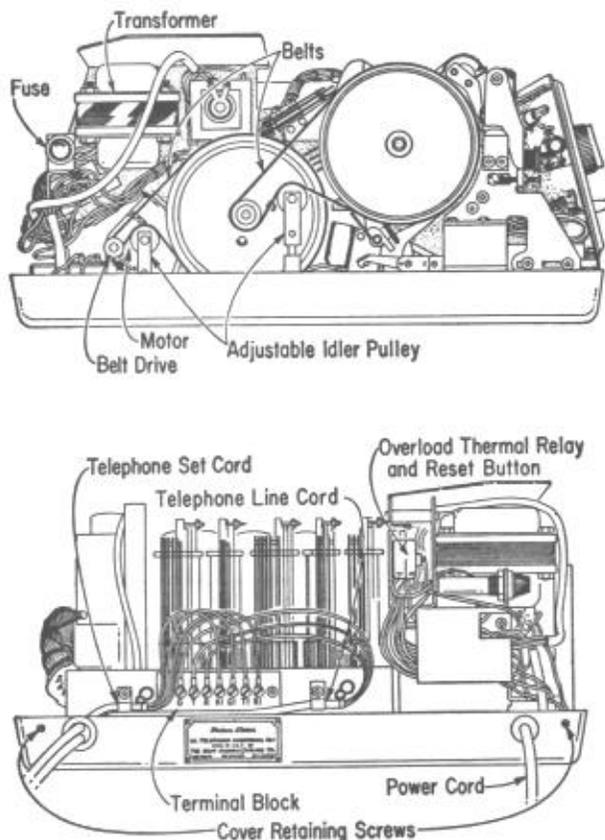

Fig. 2 - 1A Answering Set, Side and Rear View
3.04 The sets is protected by means of a 2-amp fuse which is located inside the cover of the set at the left rear corner near the motor (Fig. 2). Should the machine fail to operate and the Bell System medallion not light, this fuse should be checked. The fuse is a 2-amp, No. 312002, Littelfuse or equivalent.
3.05 An overload thermal relay is also used to protect the erasing coils in case of failure of operating contacts to open. Such a failure would cause the relay to operate, opening the main power supply circuit. If the machine fails to operate after checking the power supply and fuse, press the reset button on the relay (Fig. 2). The erase coil
5. Insert telephone set mounting cord through split rubber grommet and terminate on answering set connecting block as shown in Fig. 2. It may be necessary to cut the rubber grommet. A 4-conductor cord must be substituted for existing telephone set mounting cord in all cases.
6. Use a suitable mounting cord between the 42A connecting block or 531C subscriber set and connecting block in the answering set. Mount 531C subscriber set as covered in the C Section covering station sets. Terminate as shown in Fig. 2.